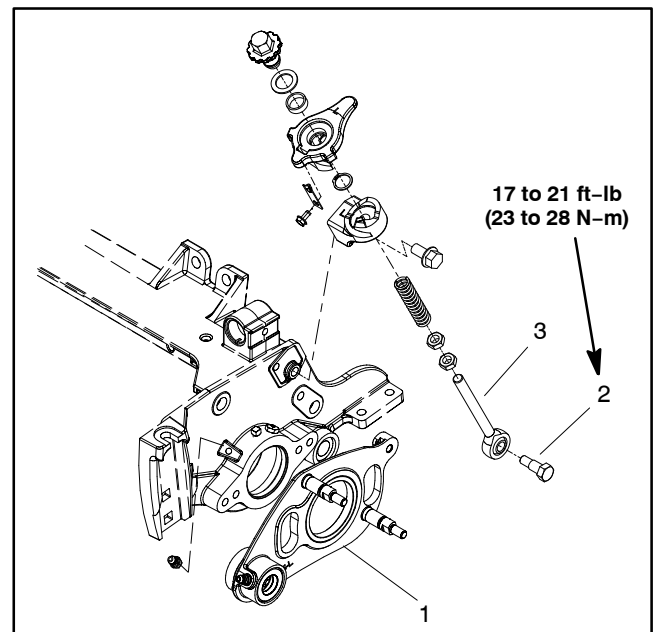
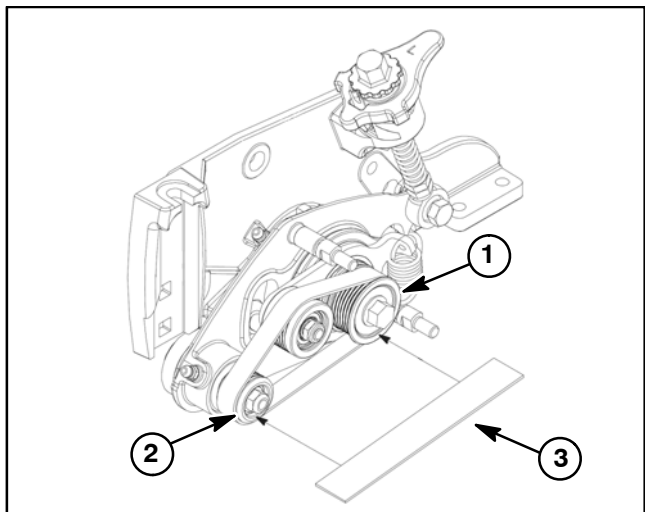

Figure 6
Figure 7
C. Secure groomer components to cutting unit side plate with two (2) socket head screws (item 7).
B. Position pivot hub and idler plate assembly to cutting unit side plate and secure with two (2) socket head screws (item 7).
C. Connect extension spring (item 14) to stud on groomer plate. Make sure that spring is in the stud groove and that spring hook is positioned toward the drive pulley.
D. Secure quick-up ball joint rod to drive side groomer plate with shoulder bolt (Fig. 6). Torque shoulder bolt from **17 to 21 ft-lb (23 to 28 N-m)**.
E. Slide pulley spacer (item 2) and washer (item 3) onto groomer shaft.
F. Apply antiseize lubricant to square keys (item 4) that locate drive and driven pulleys. Position keys into shaft slots.
I. Check pulley alignment by laying a straight edge along the outer face of the drive pulley (Fig. 7). Drive and driven pulleys should be in line within 0.030" (0.76 mm). If necessary, align pulleys by removing driven pulley and installing or removing washer(s) (item 3) between pulley and pulley spacer.